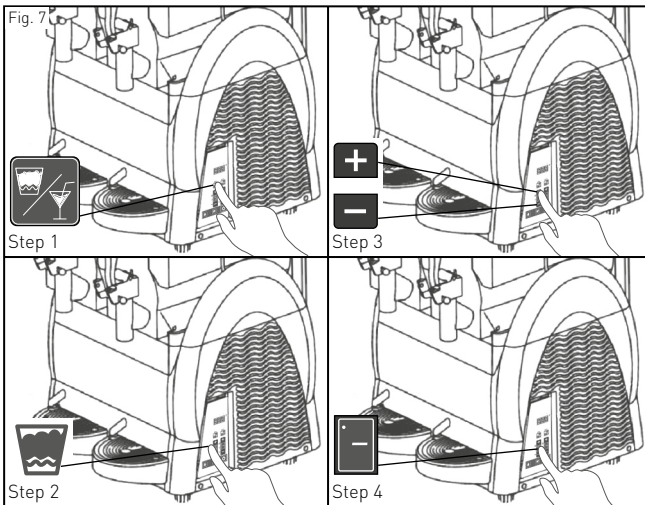

Fig. 7
- Then, press "+" or "-" consecutively to adjust the hardness. The level is between from 1 (Soft with much water content) to 7 (Hard with less water content). See Fig 7.